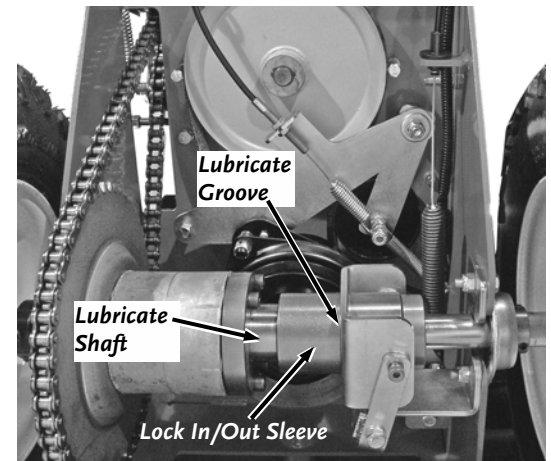

Figure 14
4. Clean the Lock In/Out Sleeve Shaft and Groove of any accumulated grass and debris with a cloth and lubricate the Shaft and Groove using SAE 30 oil (**Figure 14**).